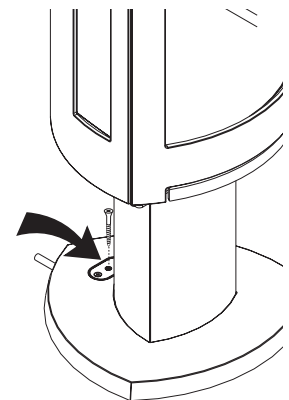

Figure 1.
6. Remove Pallet Screw. See fig. 1.